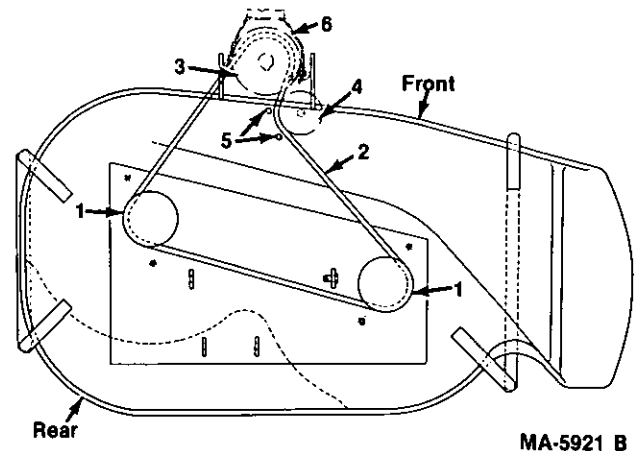

FIGURE 25.
**NOTE:** When installing a new belt, make certain that the belt runs correctly between the pulleys and the belt guides. See figure 25.